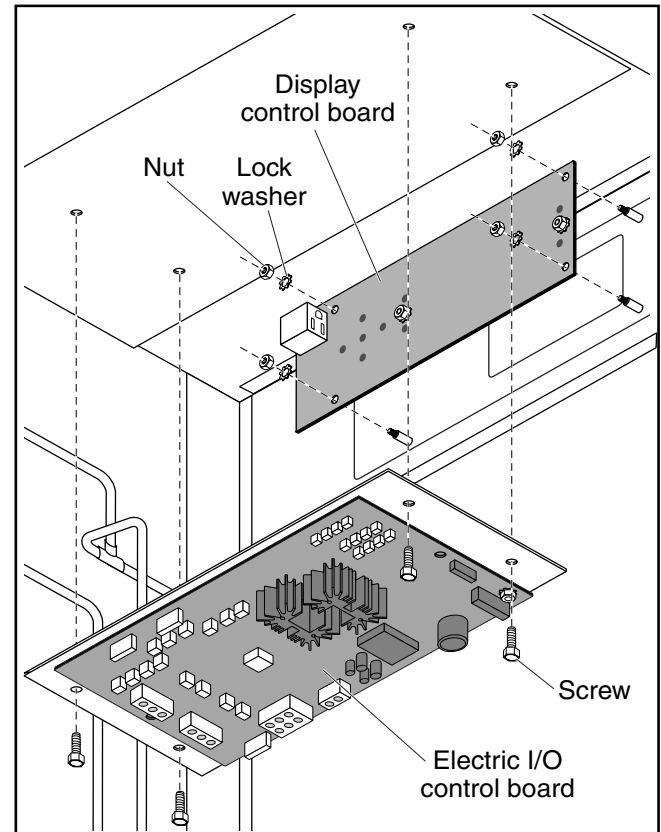

Figure 15. Control Boards
4. Inside the machine compartment, tag and disconnect the wiring harness from the display control board (Figure 15).